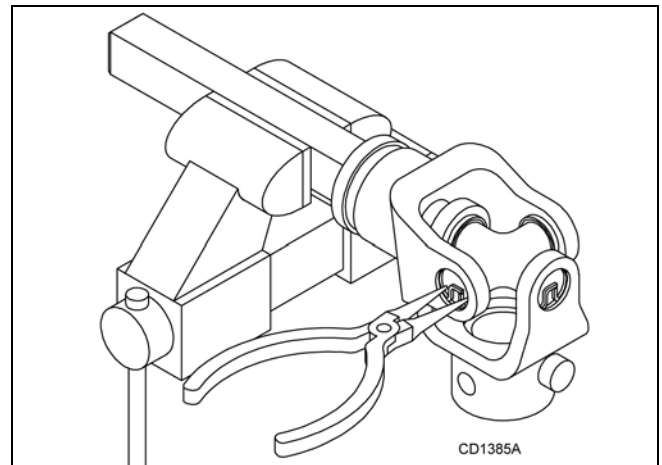

Figure 24. Remove Snap Ring
- Remove external snap rings from yokes in four locations as shown in Figure 24.